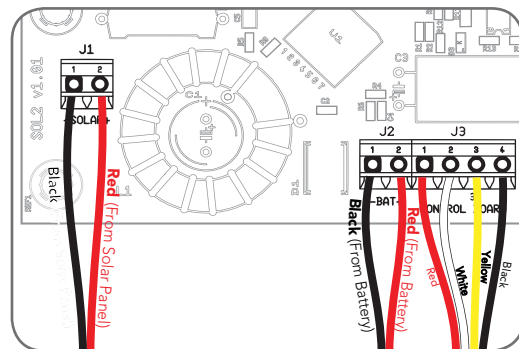

Fig 52
- Connect the **red wire** to the Charger Board's "SOLAR+" connector, and the **black wire** to the "SOLAR-" connector (Fig. 52).
- Connect the **red wire** to the Charger Board's "BAT+" connector, and the **black wire** to the "BAT-" connector (Fig. 52).